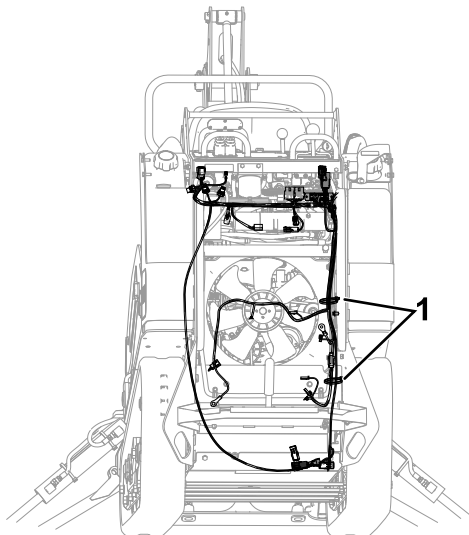

Figure 15
- Secure the harness to the traction unit wire harness with the 2 remaining cable ties as shown in Figure 15.